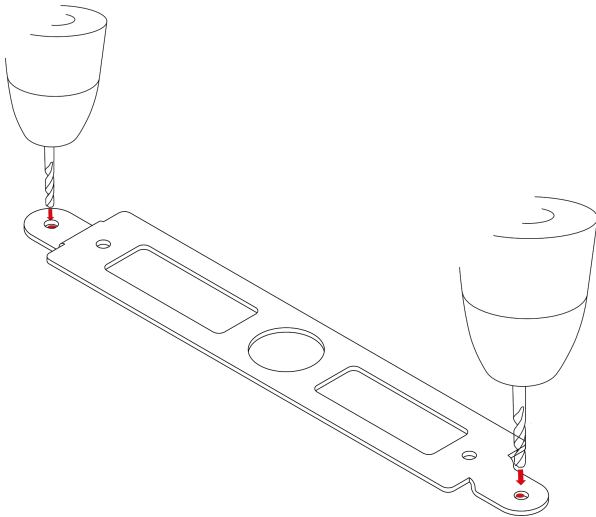

Fig.6
a. Mark and drill two holes into the wooden / composite worktop to a depth of 30mm using an Ø3mm pilot drill bit. (Fig.6)